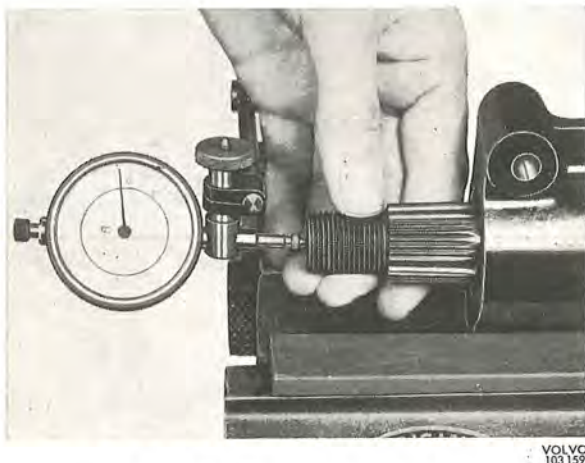

Fig. 6-59. Checking the axial play
9. Measure the axial play (Fig. 6-59) after the bolts have been tightened. The play should be .025—.05 mm (.001—.002") and is adjusted by means of the shims.
10. Remove the stop plate and the spring guide after correct clearance has been obtained and then fit the springs (7). Refit the guide, shims and plate.